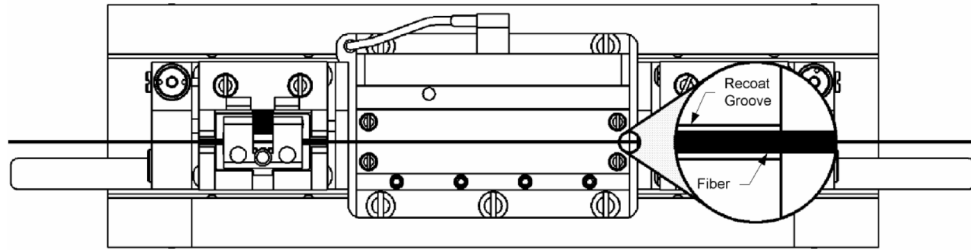

Figure 66 **Align Recoat Mold**
11. Using a 10X magnifying loupe, view the fiber straight down at the right edge of the recoat station, as shown in Figure 66. Adjust the recoat assembly such that the fiber is centered in the bottom recoat groove.